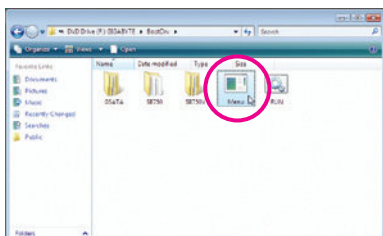
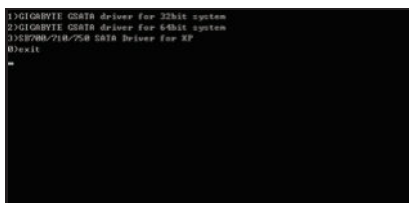

Figure 2
Figure 3
- 2: From your optical drive folder, double click the **Menu.exe** file in the **BootDrv** folder (Figure 2). A Command Prompt window will open similar to that in Figure 3.
- 3: Insert the blank formatted disk. Select the controller driver by pressing the corresponding letter from the menu. For example, from the menu in Figure 3, select 3) **SB700/710/750 SATA Driver for XP** for operating system.